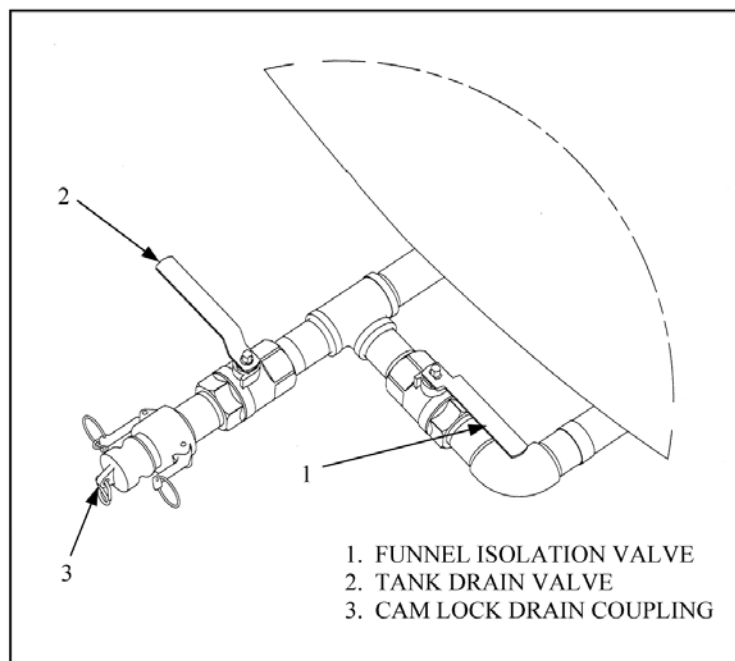

Figure 4-8. Funnel Isolation Valve, Open Position
- i. Secure clamp (4) when either the section is fully extended, or when the desired funnel height is achieved.
- k. Open Funnel Isolation Valve, see Figure 4-8, 1. The valve handle will be pointed in-line with the plumbing in the open position.
4.9.3 Draining the SealVac. The tank drain is located at the rear of the tank assembly. See Figure 4-8.